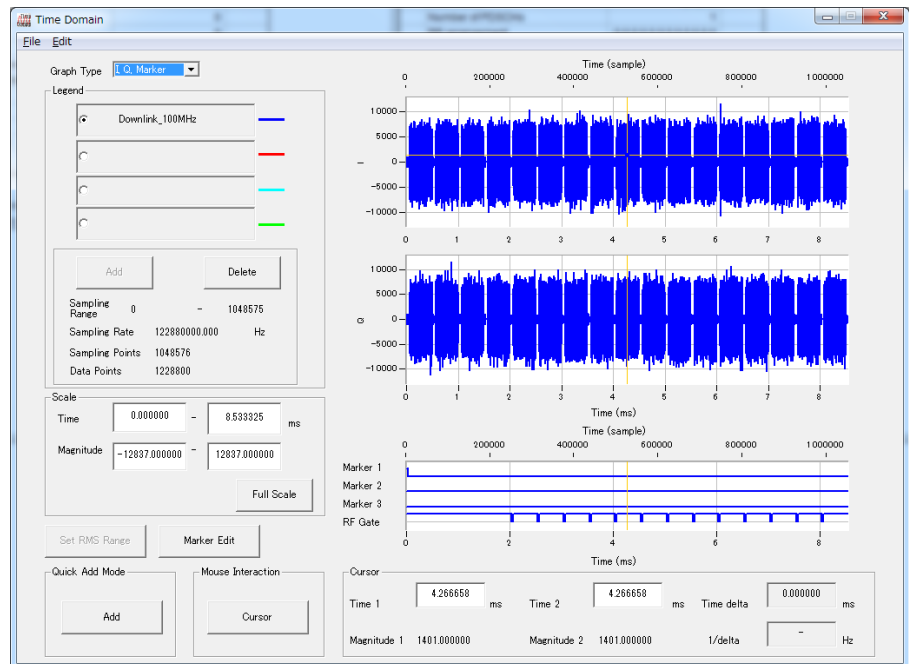

Figure 3.5-5 Time Domain screen
2. Select **Time Domain** from the **Simulation** menu or click the  tool button. The Time Domain Graph Monitor screen shown in Figure 3.5-5 is displayed with the trace of the generated waveform pattern.